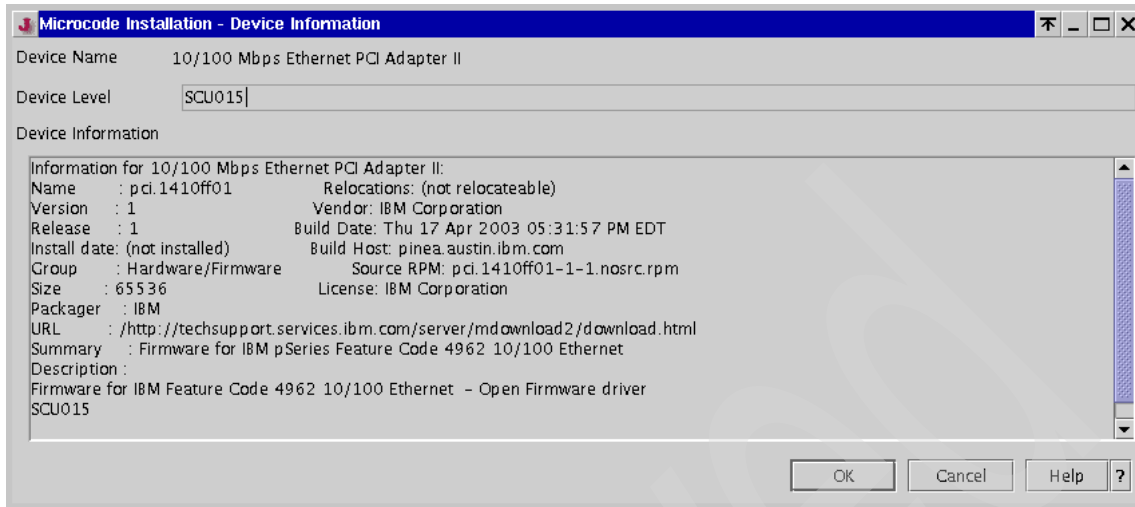

Figure 11-28 Microcode Installation - Device Information
7. It is also possible to view the details for each device. Select the device to be viewed and click **View Information**. The details of the device will be shown as in Figure 11-28 on page 278.